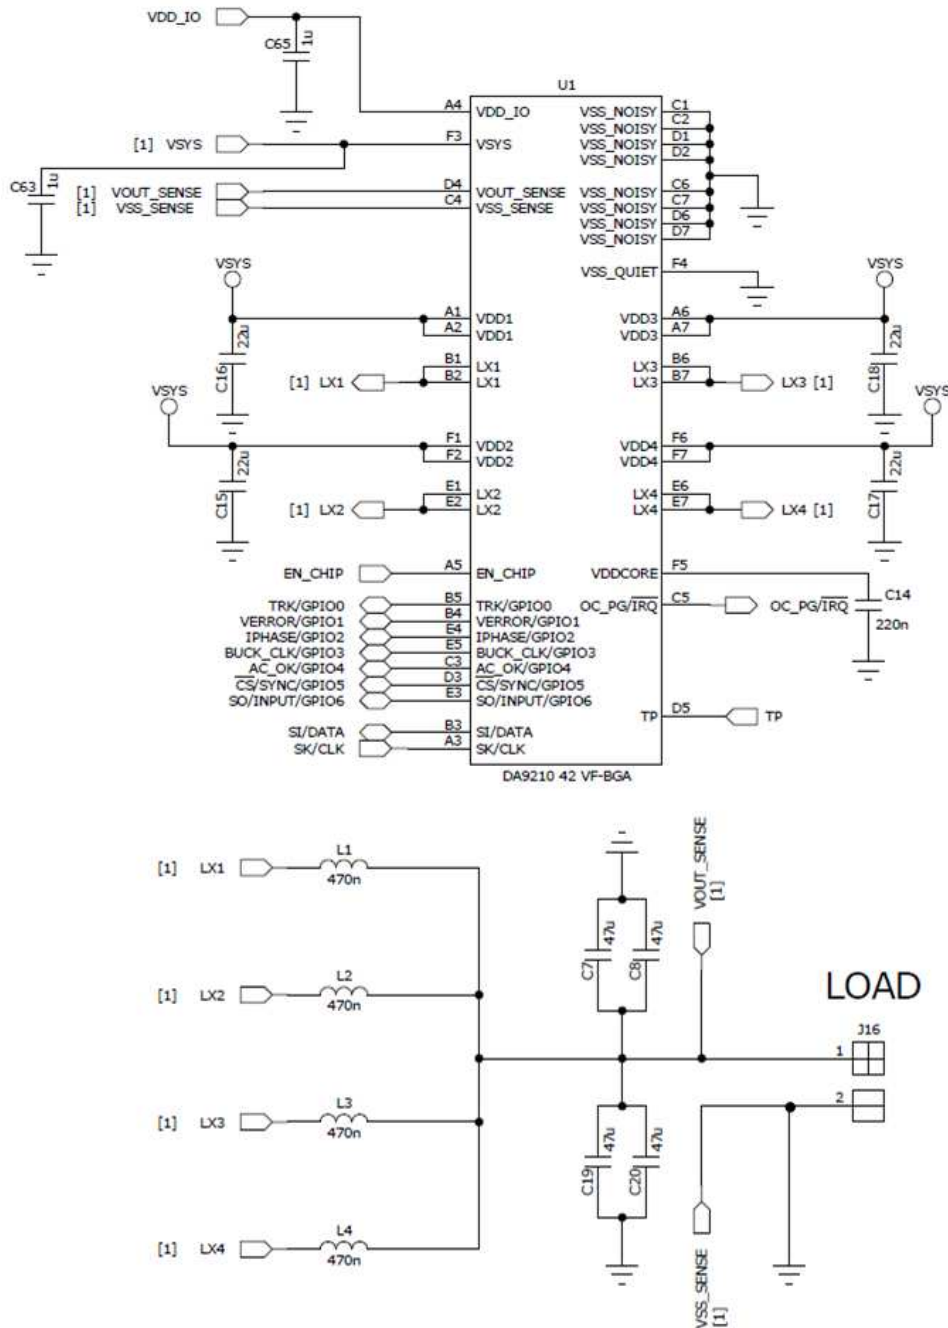

Figure 1: Schematic drawing
- Figure 1: Schematic drawing 4
DA9210 is a 4-phase Buck converter, capable of delivering a 12 A output current with an input voltage range of 2.8 to 5.5 V and an output voltage range of 0.3 to 1.57 V. The basic recommended components and connections for single chip operation are shown in Figure 1.